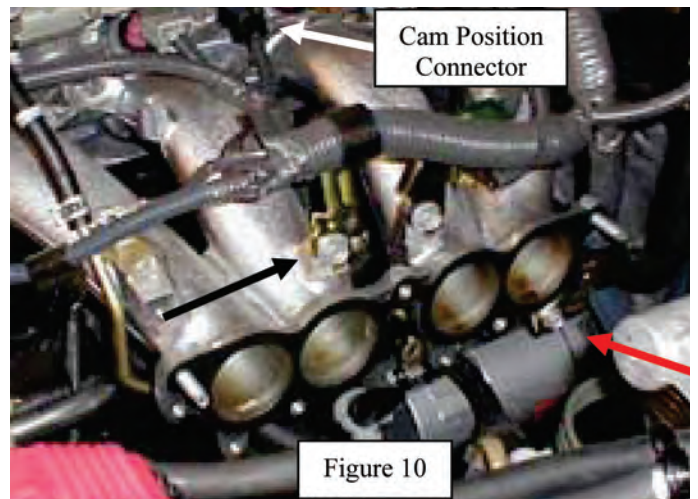

Figure 10
- 25. Disconnect wire loom clips from the intake manifold brackets and remove the clips from the wire loom. See arrows in Figure 10.
- 27. Disconnect the camshaft position sensor connector. If equipped See Figure 10.